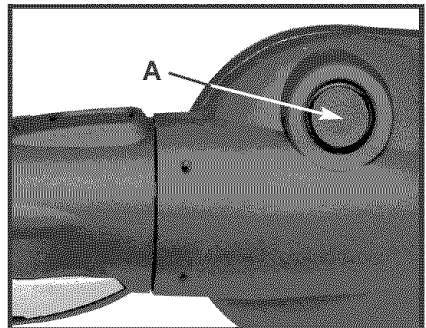
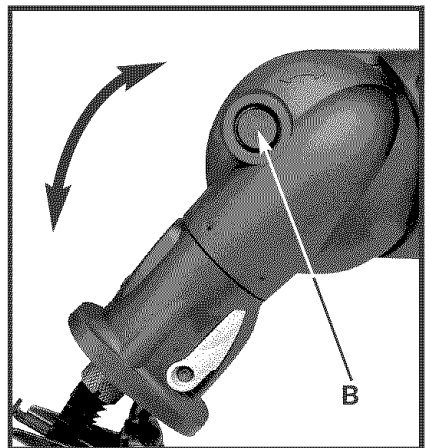

Fig. 6
Fig. 7
3. To rotate the gear housing, depress lock button (A) **Fig. 6**. Hold the button depressed while moving the gear housing up or down to the desired position or angle. Then release the lock button and continue to move the gear housing until the lock button snaps into the desired detent position (B) **Fig. 7**.